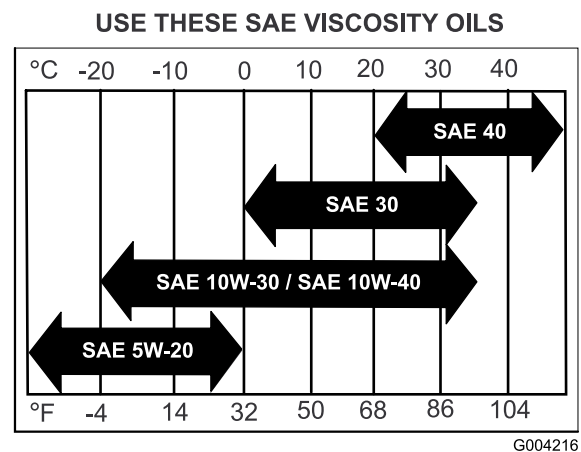

Figure 33
**Viscosity:** Refer to the table (Figure 33).